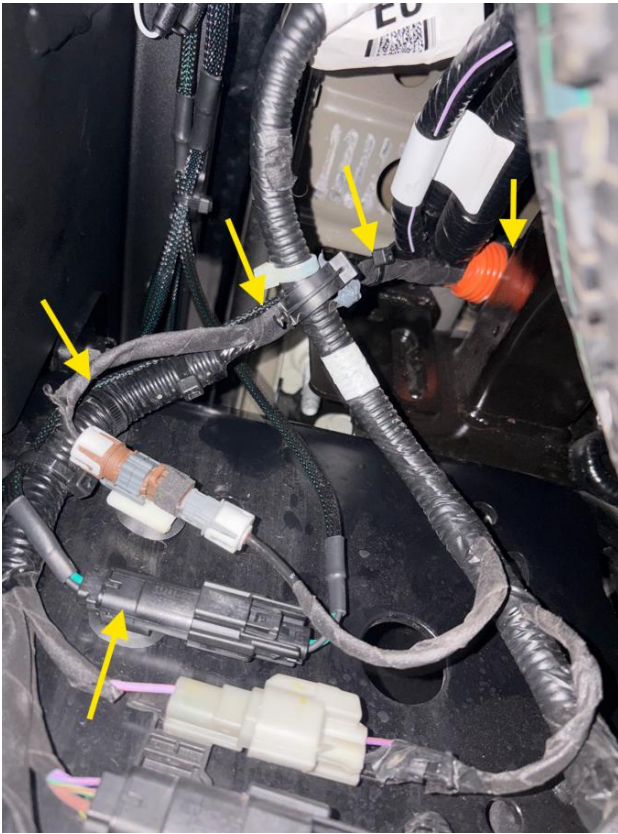

Figure 8
- b. Run the 30302098AA chassis harness along side the orange factory harness up to the cross member. Use the provided zip ties to fasten the 30302098AA harness to the factory orange harness (Fig. 8).